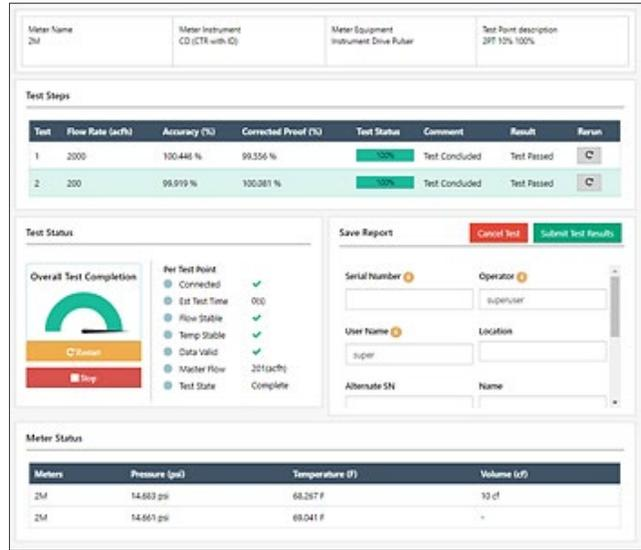

Figure 43: Meter Test results screen
1. After all Test Points in the Meter Test complete, or after **Stop** is clicked, evaluate the test data on the Meter Test results screen (Figure 43).
1. Enter information in the Save Report section (Figure 44) of the Meter Test screen (Figure 43). For more information, refer to Table 6.